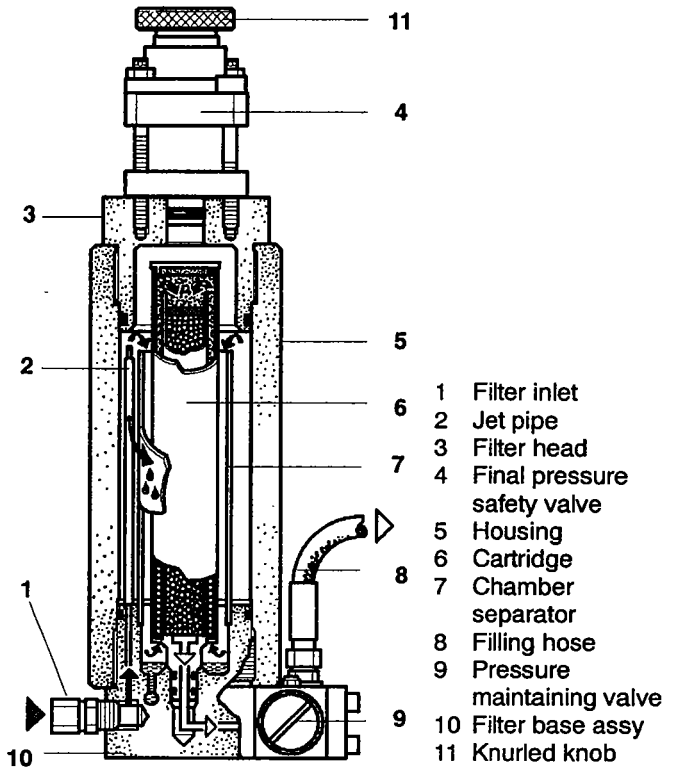

Fig. 16 Filter system P21
The air leaving the final stage is cooled in the after-cooler to approx. 10 - 15 °C (18 - 27 °F) above ambient temperature and then enters filter system P21 with TRIPLEX longlife cartridge (Fig. 16).
- Remove filter head (3, Fig. 16).